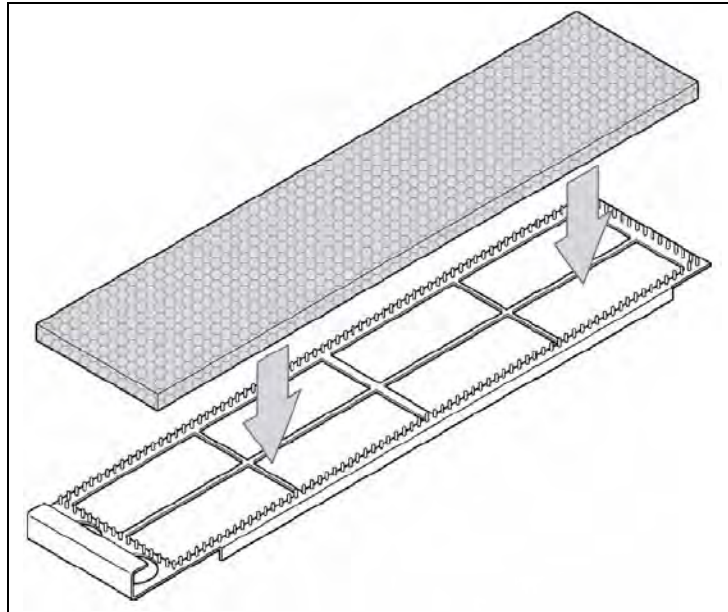

Figure C.11 - Top Air Filter Replacement
8. Attach the new filter to the frame (**Figure C.11**). Ensure that it is aligned with the frame.